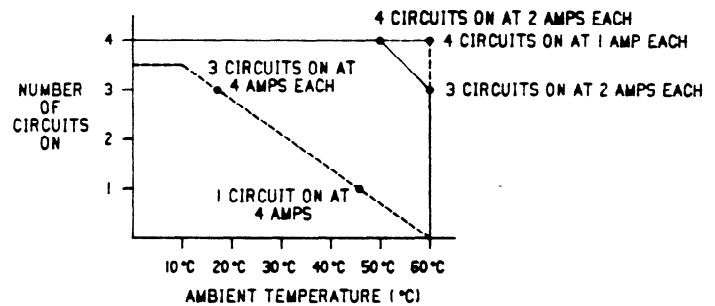

Figure 6-26. I/O Points vs Temperature Chart
*Maximum load current is dependent on ambient temperature as shown in figure 6.26.